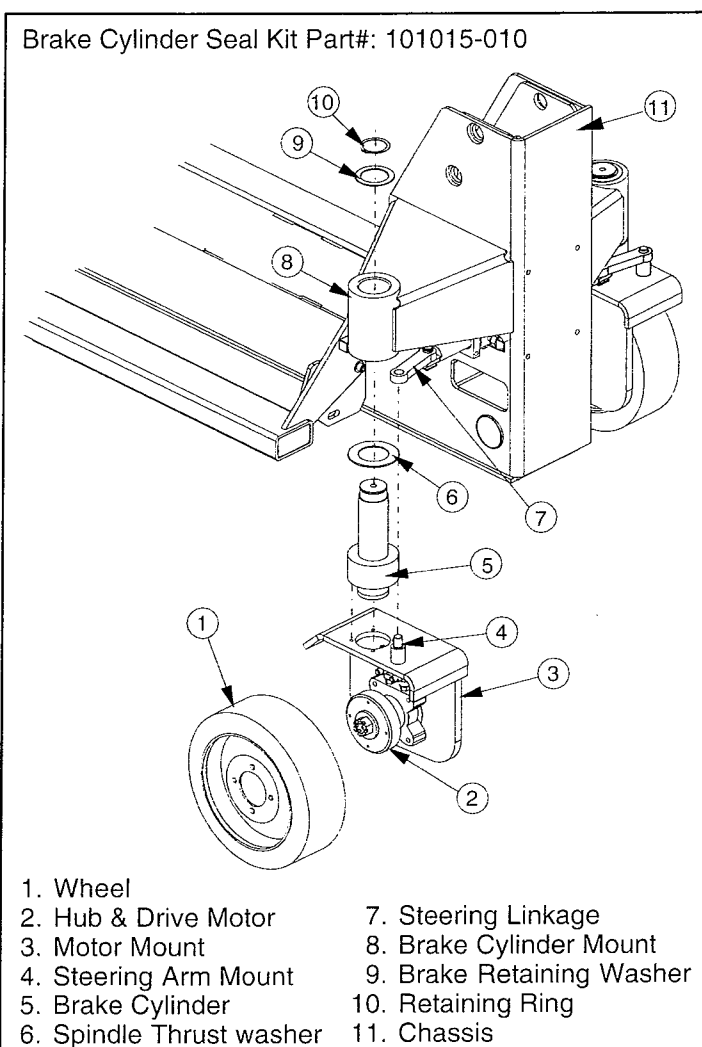

Figure 3-13: Brake Cylinder
3.11 Brake Cylinder (Figure 3-13)